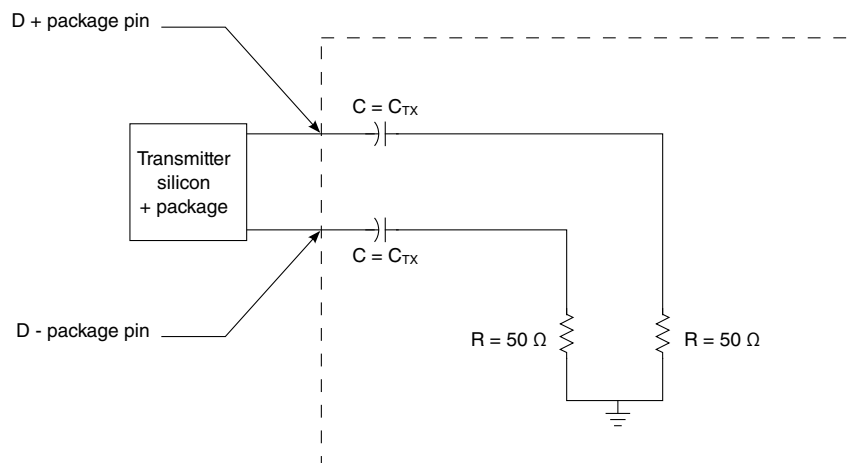

Figure 71. Test/measurement load
1. Specified at the measurement point into a timing and voltage test load as shown in Figure 71 and measured over any 250 consecutive transmitter UIs.
1. Specified at the measurement point and measured over any 250 consecutive UIs. The test load in Figure 71 must be used as the receiver device when taking measurements. If the clocks to the receiver and transmitter are not derived from the same reference clock, the transmitter UI recovered from 3500 consecutive UI must be used as a reference for the eye diagram.